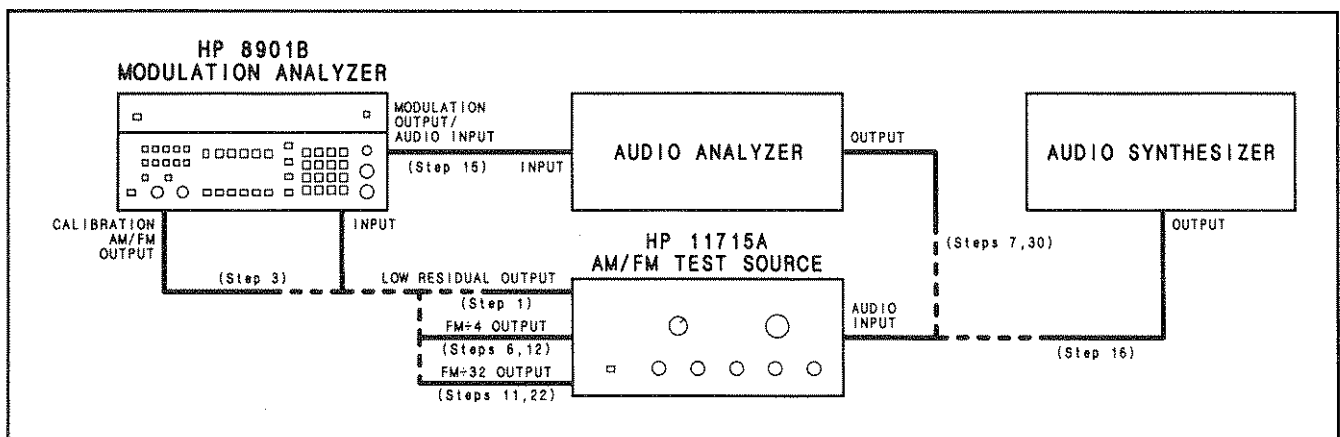

Figure 4-2. FM Performance Test Setup
1. On the AM/FM test source, set the test mode to residual FM. Connect its low-residual (560 MHz) output to the Modulation Analyzer's INPUT. (See Figure 4-2.)
3. Connect the Modulation Analyzer's CALIBRATE AM/FM OUTPUT to the INPUT. (See Figure 4-2.)
- On the AM/FM test source, set the test mode to FM. Connect its FM÷4 output to the Modulation Analyzer's INPUT. (See Figure 4-2.)
- Set the audio analyzer's oscillator to 10 kHz at 1V. Connect its output to the audio input of the AM/FM test source. (See Figure 4-2.)
- Connect the FM÷32 output of the AM/FM test source to the Modulation Analyzer's INPUT without disturbing the AM/FM test source's controls. (See Figure 4-2.) Multiply the displayed ratio on the Modulation Analyzer by the calibration factor of step 4. (For example, if the display reads 12.52% REL and the calibration factor of step 4 is 100.4%, the result is $12.52 \times 100.4 = 12.57\%$ REL.) The result should be between 12.35 and 12.65% REL.
- Connect the FM÷4 output of the AM/FM test source to the Modulation Analyzer's INPUT. (See Figure 4-2.)
- Connect the audio analyzer's input to the Modulation Analyzer's **MODULATION OUTPUT/AUDIO INPUT**. (See Figure 4-2.) Set the audio analyzer to measure the distortion on the 100 kHz signal at the **MODULATION OUTPUT/AUDIO INPUT** (all audio analyzer filters should be off). The distortion should be 0.1% or less (−60 dB or less).
16. Set the audio synthesizer to 10 kHz at +5 dBm. Connect its output to the audio input of the AM/FM test source. (See Figure 4-2.) Fine adjust the level for a Modulation Analyzer display of 100 kHz times the calibration factor of step 5. (For example, if the calibration factor of step 5 is 100.4%, set the level for a display of 100.4 kHz.)
22. Connect the FM÷32 output of the AM/FM test source to the Modulation Analyzer's INPUT. (See Figure 4-2.)
30. Set the audio analyzer's oscillator to 10 kHz at 4V. Connect its output to the audio input of the AM/FM test source. (See Figure 4-2.) Fine adjust the oscillator level for a Modulation Analyzer display of 10 kHz peak deviation.